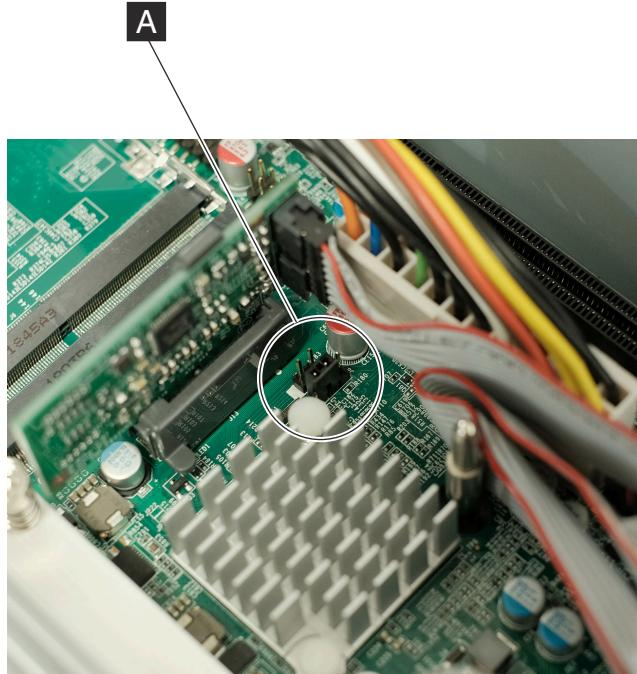

Figure 19. Locating and resetting the CMOS jumper
4. Locate the CMOS jumper **A**, as shown in Figure 19.